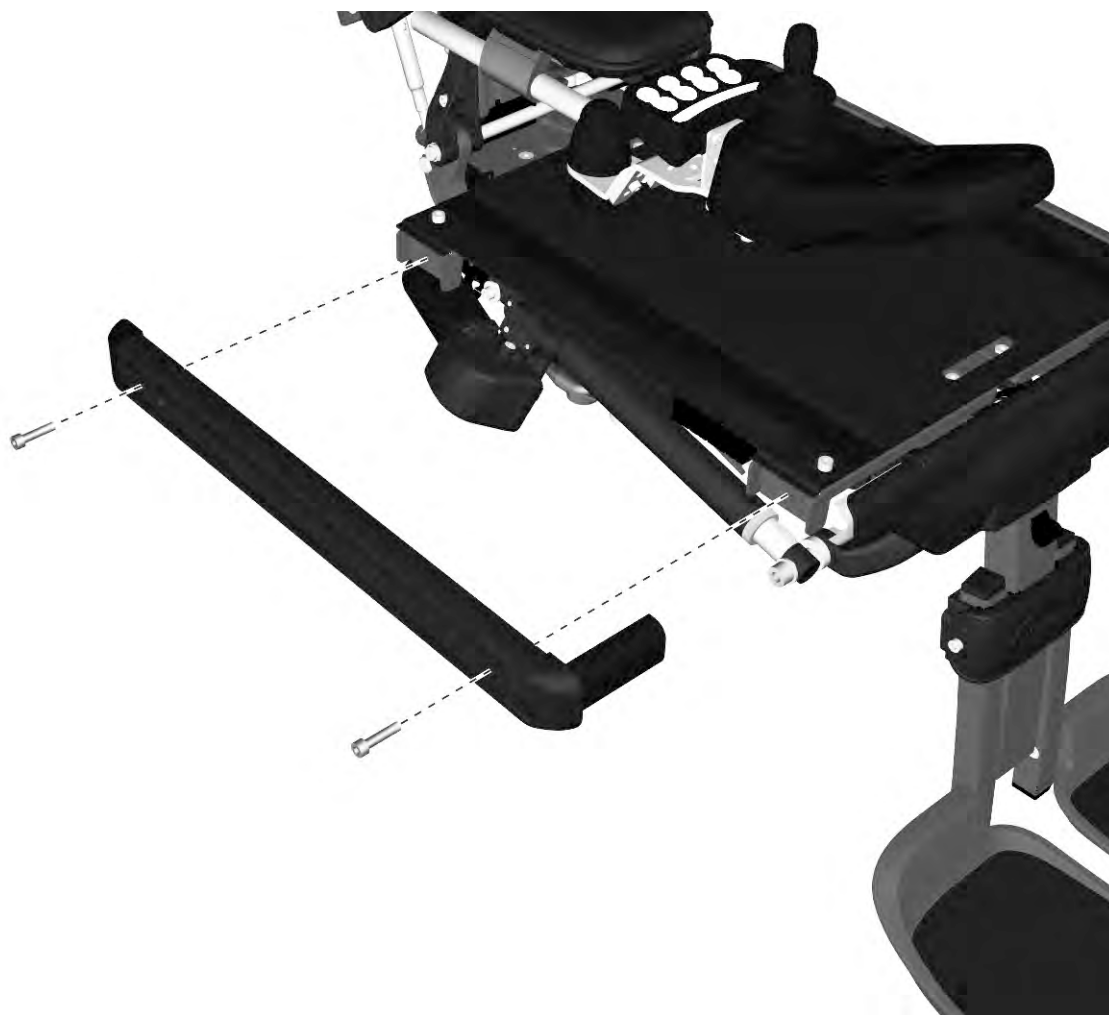

Figure 186. The UniTrack rail is held in place by two screws.
1. Remove the two screws that hold the rail in place. See fig. 186.
1. Assemble the UniTrack rail using two screws. See fig. 186. Use a torque wrench to tighten the screws. **Tightening torque 9.8 Nm / 7.2 Ft/lbs.**